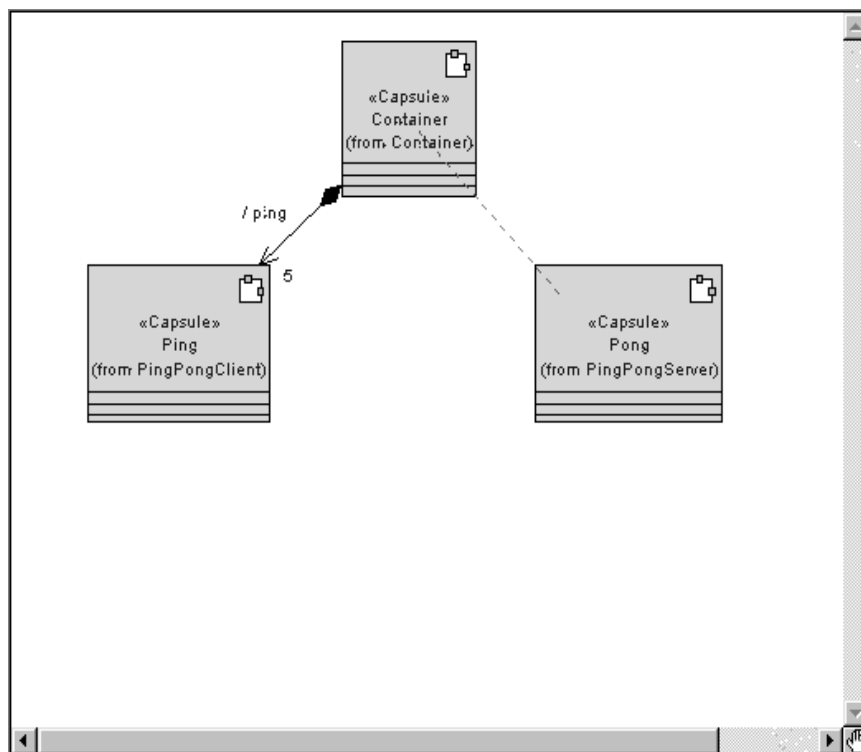

Figure 14 *Creating aggregations between capsules*
5. Create an aggregation relationship between the Container capsule and the Ping capsule. Do this by clicking and dragging from the Container capsule to the Ping capsule as shown in Figure 14.